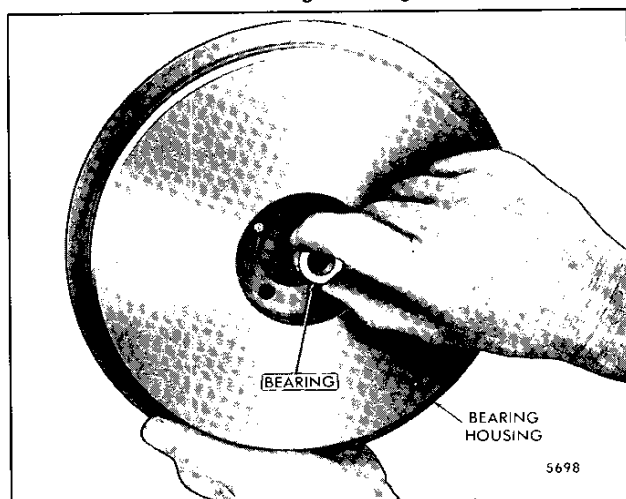

Fig. 10 – Removing Turbine Shaft Bearing from Bearing Housing
12. Remove and discard the turbine shaft bearing from the bearing housing bore (Fig. 10).